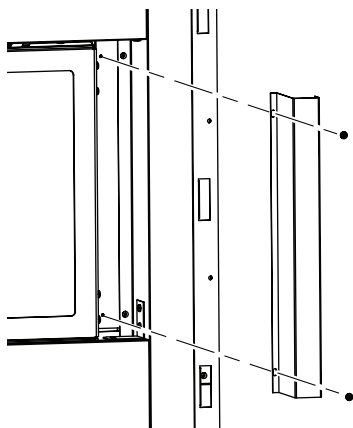

Figure 5 - Installing Side Face Filler for See-Thru Applications
1. Screw side face filler into firebox side baffle using 2 screws on both the left and right side as shown in Figure 5.